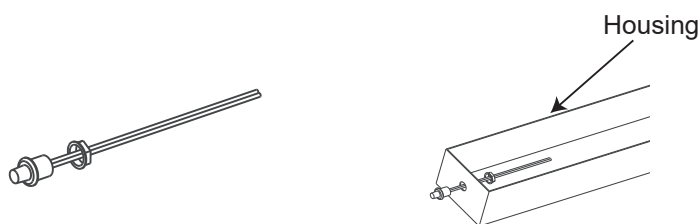

Figure 1-1
1. Pre-open a 1/2 " hole on the fixture housing and fix the test button on the fixture housing (Figure 1-1).